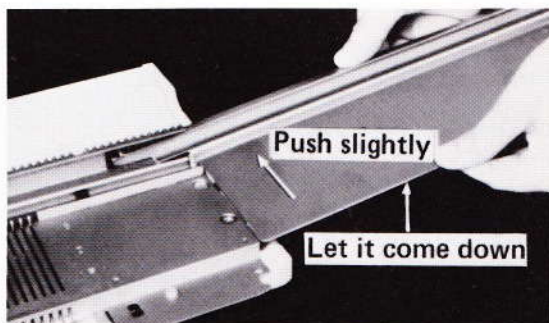

Fig. 137
- Lift up the end of the auxiliary rail slightly, push it a little and let it come down to secure it (fig. 137).